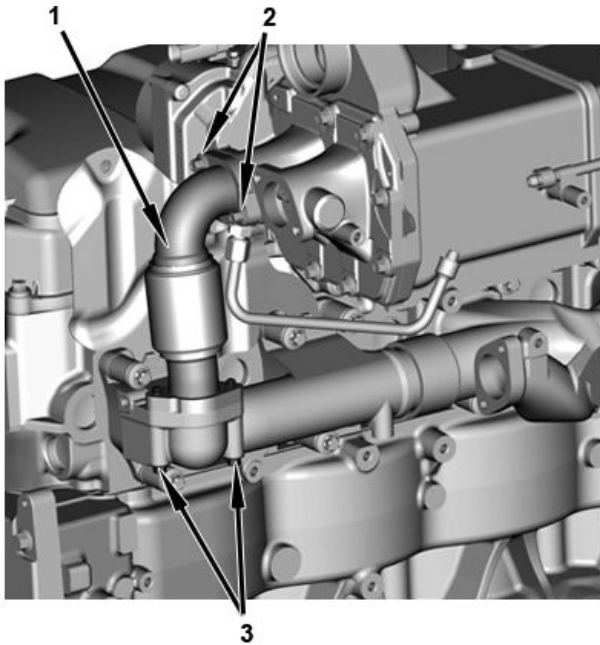

Figure 29. EGR Inlet Tube (Inside).
8. Install new EGR inlet tube (Figure 29, Item 1) if existing tube has leaks or has outdated parts number 3005416C3, 3005782C3 stamped on the wall. Install four heat-resistant bolts (Figure 29, Items 2 and 3) finger tight. Torque bolts to 18 lb-ft (24 N·m).